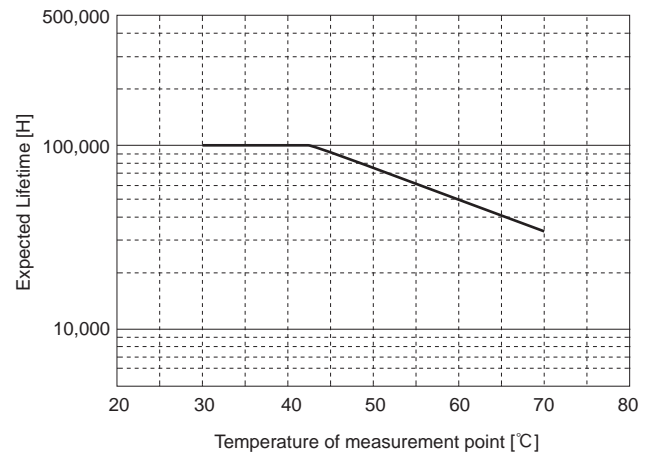

Fig.3.11 Expected lifetime of fan
■ The built-in cooling fan should be changed periodically. The expected life time (R (t) = 90%) of the built-in fan depends on the operating condition as shown in Fig. 3.11.
The maximum warranty period is 5 years as shown in Fig. 3.11 to Fig. 3.15.